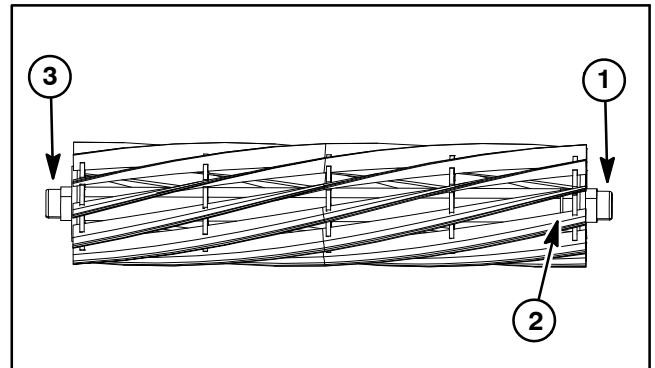

Figure 31
4. Install bearing lock screw (item 5) and reel drive shaft (item 4) into reel shaft to secure bearings. Reel drive shaft has LH threads and should be installed in end of reel shaft identified with a groove that is just inside of reel spider (Fig. 31).